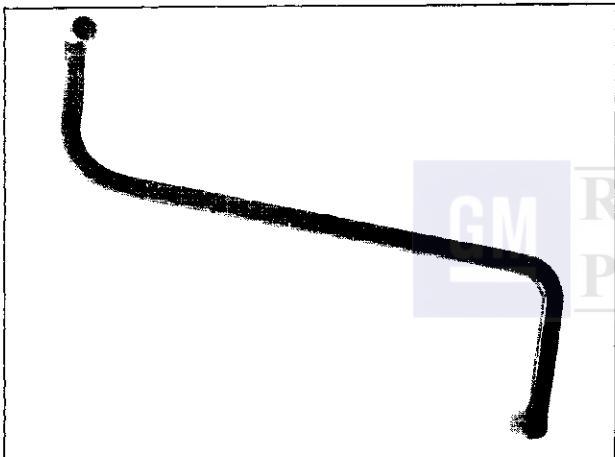

Fig. 6-56—Front Door Hinge Tool J-22810 - "A" Styles
- On "A" body styles, use tool J 22810 - 1/2" wrench (Fig. 6-56).